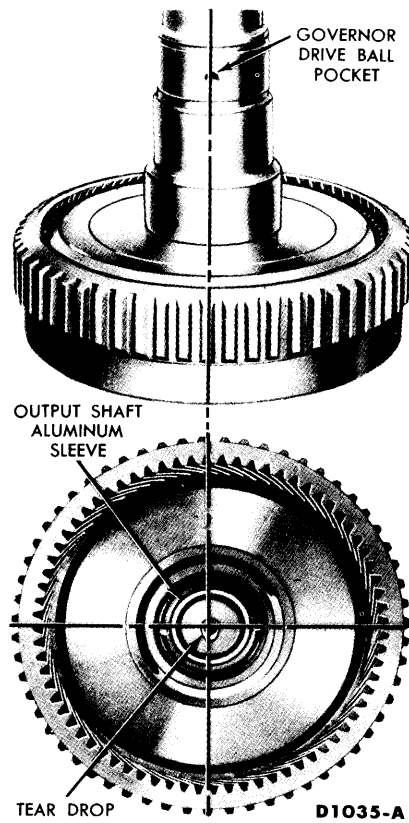

FIG. 16—Correct Position of Output Shaft Sleeve
4. Inspect the output shaft sleeve for alignment with the governor drive ball (Fig. 16).